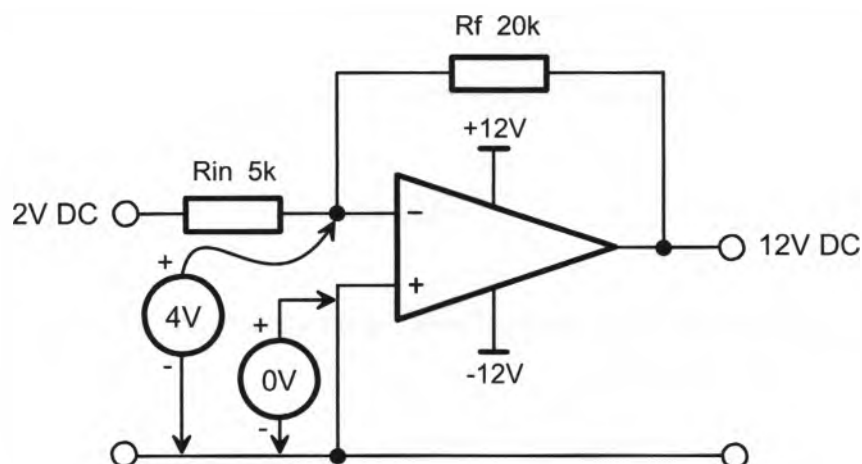

Figure 2
13. Figure 2 below shows a faulty inverting amplifier with input and output voltages shown together with the voltages on the op amp's non-inverting and inverting pins. State what component in the circuit is faulty.